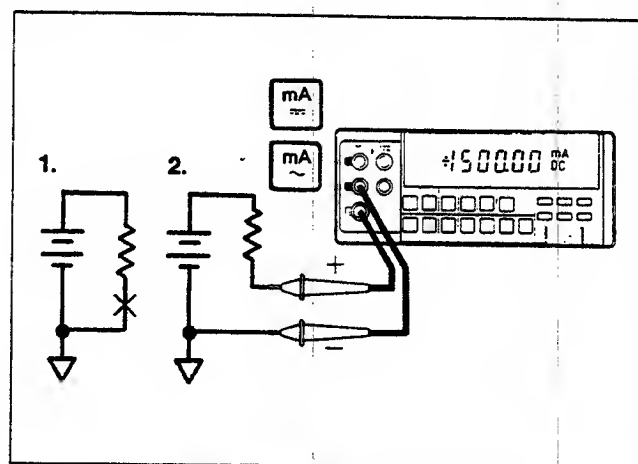

Figure 2-10. Measuring Current
1. Turn off power in the circuit to be measured (see Figure 2-10).